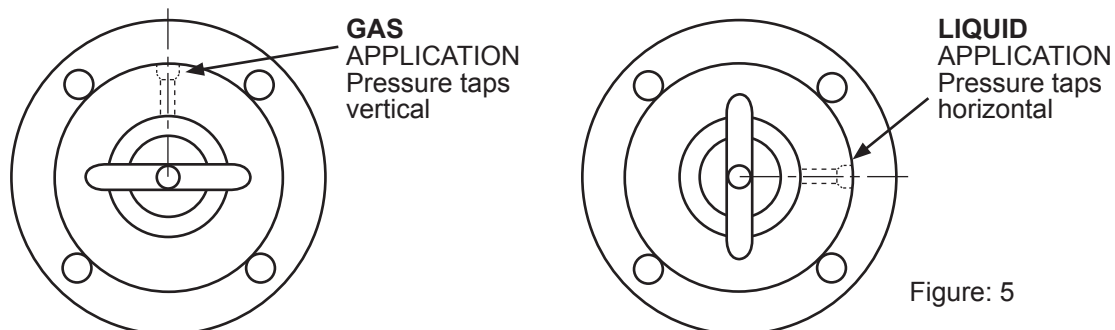

Figure: 5
Orient the mating flange bolt holes to allow clearance for plumbing (gauge lines) to the pressure taps (Figure 5).
Step 3	Set the meter body (or meter body with adapters) and centering rings onto the two lower bolts (Figure 12). The centering rings will support the meter body until all components are installed and secured by the flange bolts. Rotate the meter body to orient the pressure taps as needed (Figure 5). Slide each flange gasket into place - the two lower bolts will keep them from falling.